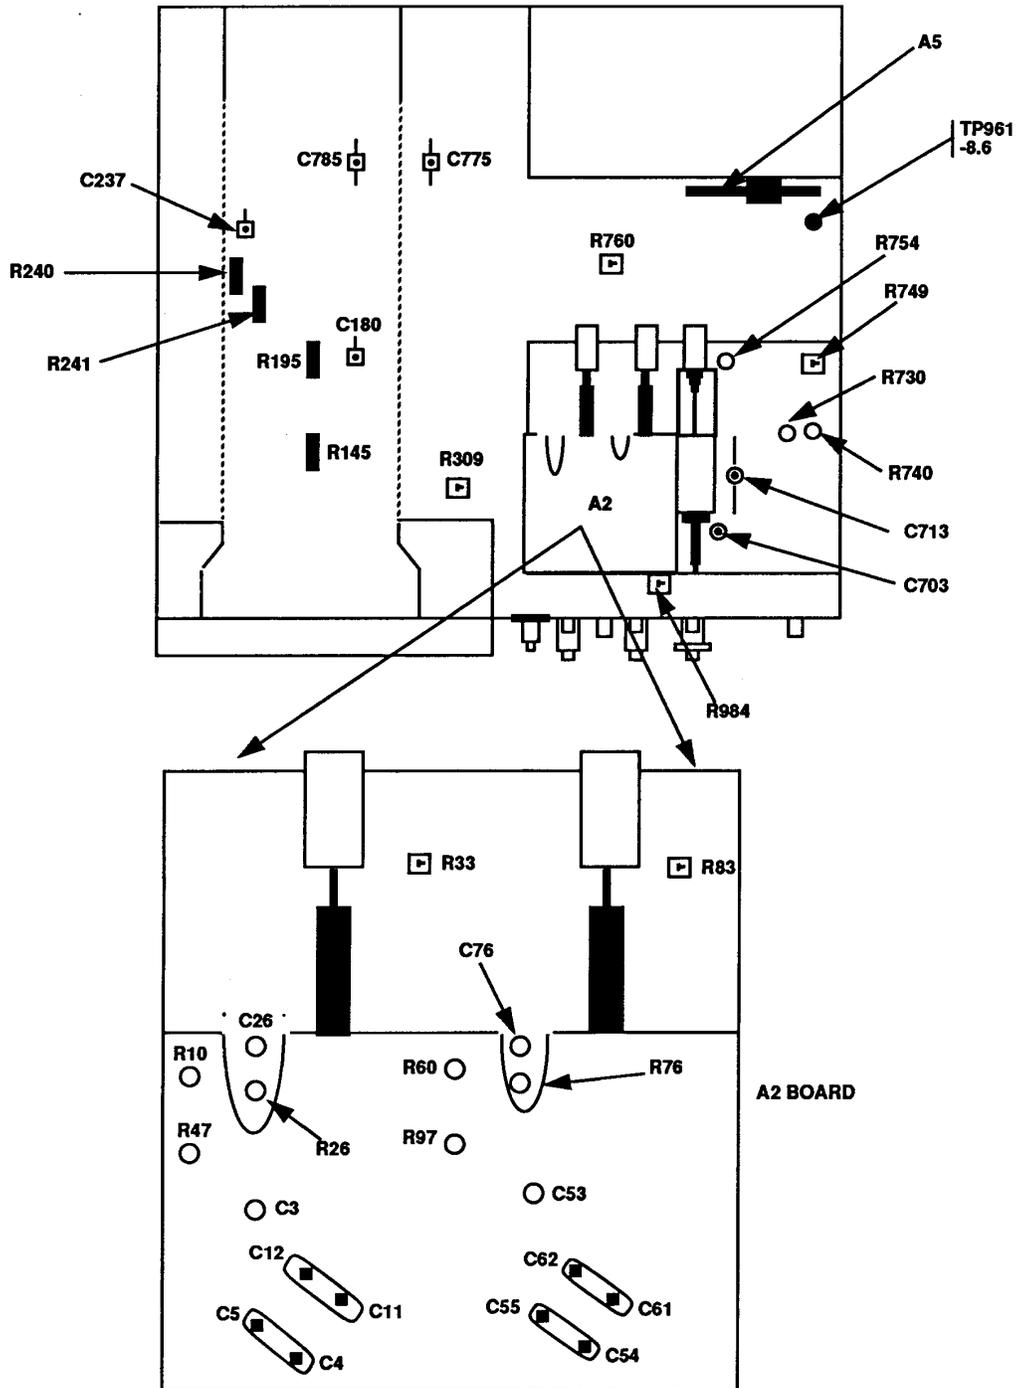

Figure 1. Adjustment locations – top view.
- (1) Disconnect oscilloscope calibrator **CHAN 1** from TI **CH 1**.
- (2) Set **CH 1 AC GND DC** switch to **AC**.
- (3) Set **CH 1 VOLTS/DIV** switch to **50m**.
- (4) Adjust **CH 1 POSITION** control to position trace on center horizontal graticule line.
- (5) Set **CH 1 VOLTS/DIV** switch to **5m**.
- (6) Adjust R10 (fig. 1) to position trace on center horizontal graticule line.
- (7) Repeat (3) through (6) above for minimum trace shift when setting **CH 1 VOLTS/DIV** switch from **50m** to **5m**.
- (8) Adjust **CH 1 POSITION** control to position trace on center horizontal graticule line.
- (9) Set **CH 1 VOLTS/DIV** switch to **2m**.
- (10) Adjust R33 (fig. 1) to position trace on center horizontal graticule line.
- (11) Set **CH 1 VOLTS/DIV** switch to **5m**.
- (12) Repeat (8) through (11) above for minimum trace shift when setting **CH 1 VOLTS/DIV** switch from **5m** to **2m**.
- (13) Connect oscilloscope calibrator **CHAN 1** to TI **CH 1** using a 50Ω feedthrough termination.
- (14) Position controls as listed in (a) through (c) below:
- (15) Set oscilloscope calibrator **EDGE** output to **10 kHz** and 5 divisions of vertical deflection on TI.
- (16) Adjust **CH 1 POSITION** control to position top of waveform to the center horizontal graticule line.
- (17) Adjust C3 (fig. 1) and R47 (fig. 1) for the best square corner and flat top.
- (18) Remove 50 $\Omega$  feedthrough termination and connect calibration generator **OUTPUT** to TI **CH 1**.
- (19) Set oscilloscope calibrator voltage output to 10 mV at 1 kHz .
- (20) Position controls as listed in (a) through (c) below:
- (21) Adjust R26 (fig. 1) for 5 divisions of vertical deflection on TI (R).
- (22) Set **CH 1 VOLTS/DIV** switch to **10m**.
- (23) Set oscilloscope calibrator output to 50 mV.
- (24) Adjust R145 (fig. 1) for 5 divisions of vertical deflection on TI (R).
- (25) Connect oscilloscope calibrator **CHAN 1** to TI **CH 1** using a 5-80 pF standardizer.
- (26) Set oscilloscope calibrator **EDGE** output to **1 kHz** and amplitude for 5 divisions of vertical deflection on TI.
- (27) Adjust 5-80 pF standardizer for optimum square wave.
- (28) Set **CH 1 VOLTS/DIV** switch to **.1**.
- (29) Replace 5-80 pF standardizer with 50 $\Omega$  feedthrough termination.
- (30) Set oscilloscope calibrator output amplitude for 5 divisions of vertical deflection on TI.